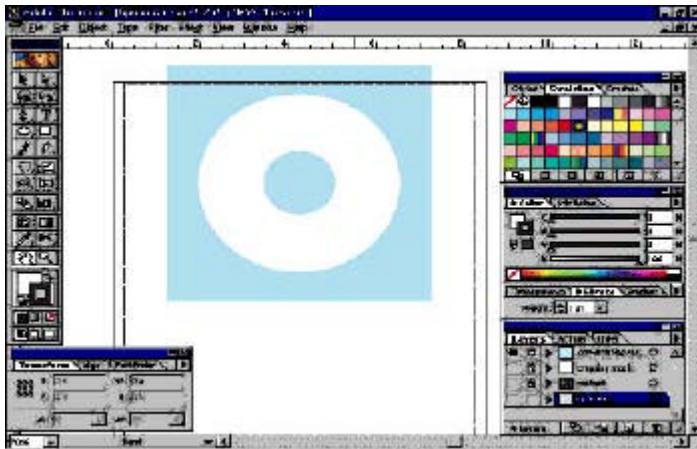

Fig. 5-4 White printing mask layer aligned with non-printing layer
13) Paste the grouped object from the clipboard on the layer. Move it so that the coordinates match those noted previously. This can be done with the arrow keys but will be more accurate to do it by the numbers. (see Fig. 5-4)